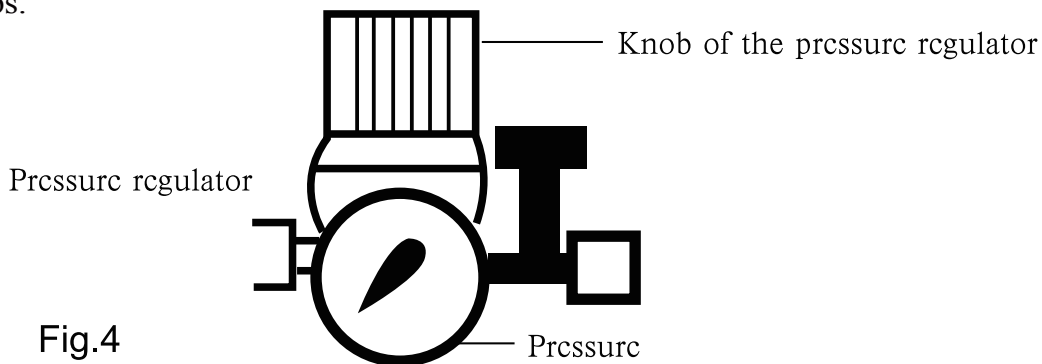

Fig.4
a. pull out upward the knob of the pressure adjuster, turn clockwise to increase the exhausting air pressure to a rated maximum pressure, the same as in the air storage tank (Figure 4)